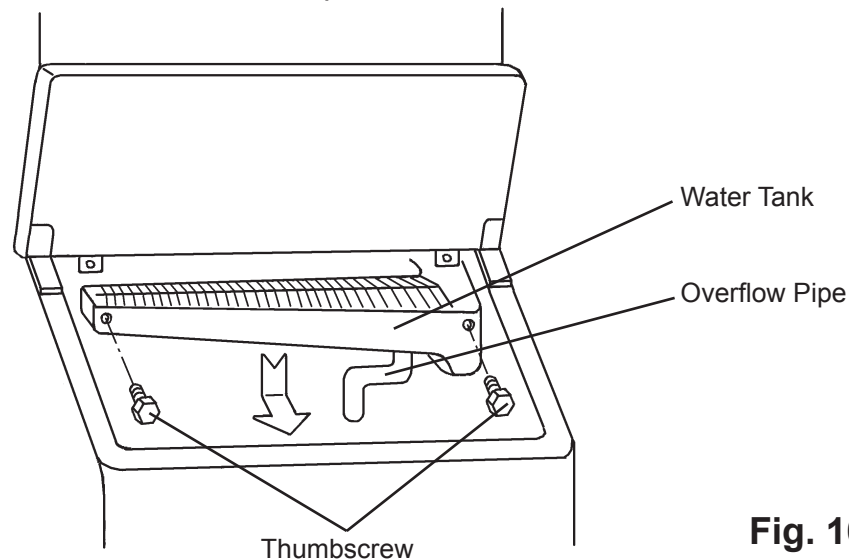

Fig. 16
- 4) Remove the two Thumbscrews. Pull the Water Tank slightly toward you and push it down. Be careful to avoid breakage when handling the parts. See Fig. 16.
- 14) Disconnect the Overflow Pipe. Next, remove the Water Tank by removing the two Thumbscrews and pulling the tank towards you slightly and pushing it down. Be careful to avoid breakage when handling the parts. See Fig. 16.